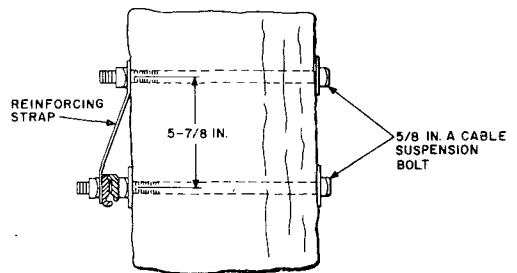

Fig. 9—Installing Reinforcing Strap Using Bolt
- (1) Bore an 11/16-inch hole for the strap bolt 5-7/8 inches above, and parallel to, the suspension bolt hole. Bore from strand side of pole.
- (2) Place strap on the suspension bolt and run the nut up sufficiently to keep the clamp and strap from falling off. Do not tighten.
- (3) Place 5/8-inch bolt in top hole, through the strap, and tighten strap to pole.
- (4) Tighten nut on suspension bolt.
- (5) A completed installation is illustrated in Fig. 9.